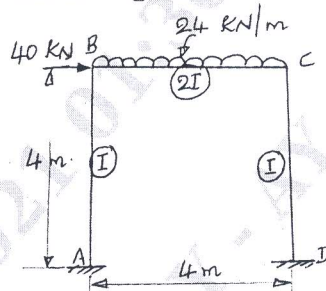

Fig Q6
- 6 Using displacement transformation matrix analyse the frame shown in Fig Q6. Also draw shearing force and bending moment diagrams. (20 Marks)